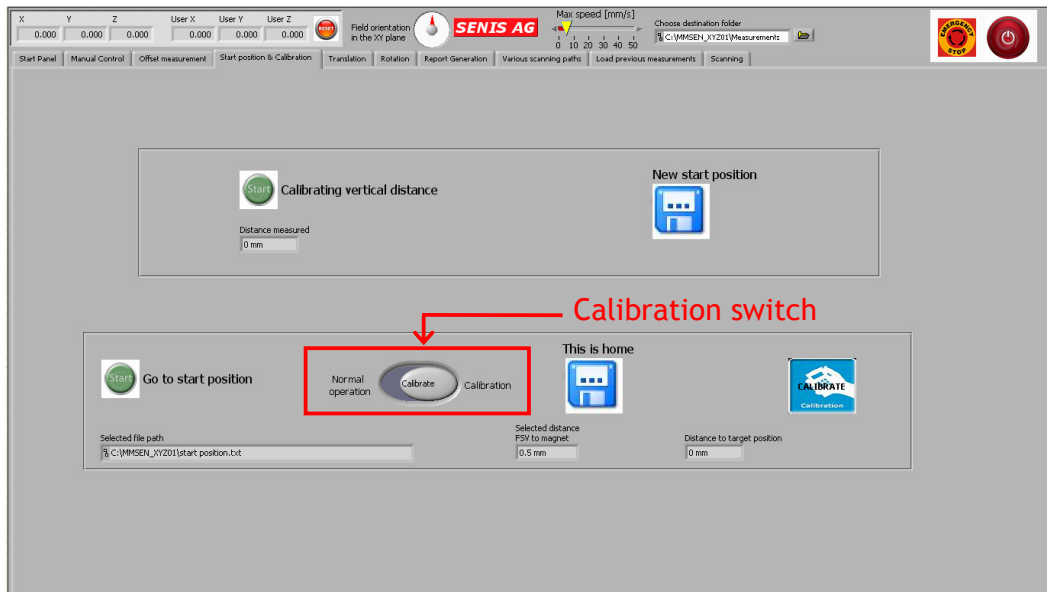

Figure 19: Toggle the switch to "Calibration" position
9) Click on the toggle switch in the bottom of the screen (Figure 19) to put it in the “Calibration” position. New controls will appear on the screen.